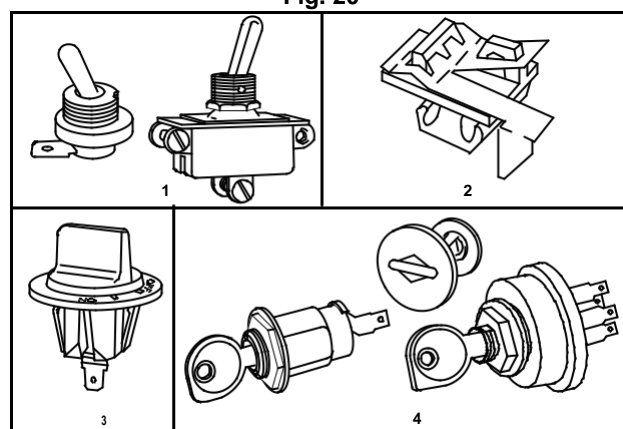

Fig. 21
Stationary (2), rotary (3), toggle (1), and key stop (4) switches are used to meet various equipment needs, Fig. 21.